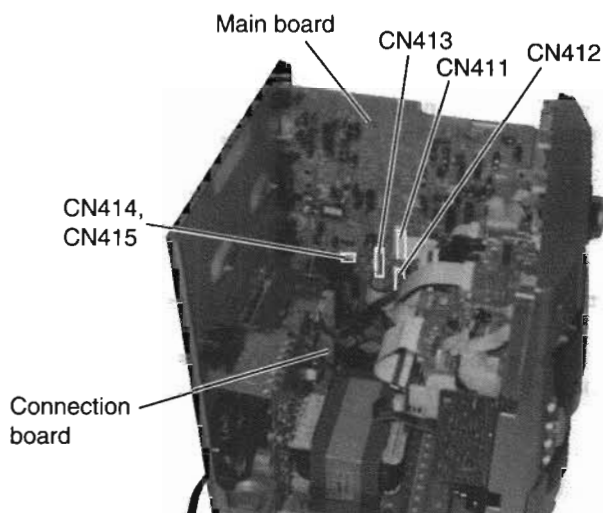

Fig.22
■ **Removing the Main Board** (See Fig.22 and 23)
■ **Removing the Rated Voltage Board and Power Amplifier Board** (See Fig.22, 24 and 25)